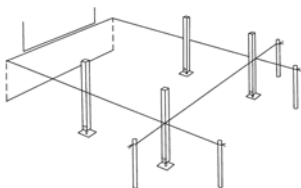

Fig 7 Cut posts to required height of handrails.
- Your posts should be cut to length, whilst taking into account the desired finished handrail height of your deck (Fig 7). Note that some posts may be concealed underneath the finished deck.